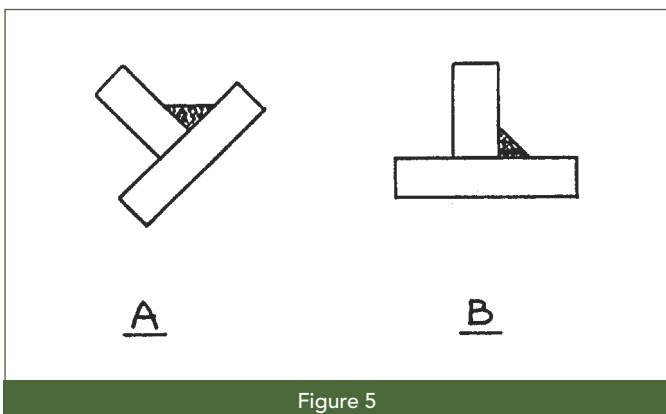

Figure 5
**Favor the horizontal and flat welding positions.** These welds are easier and quicker to make, and are generally of high quality (see Figure 5).